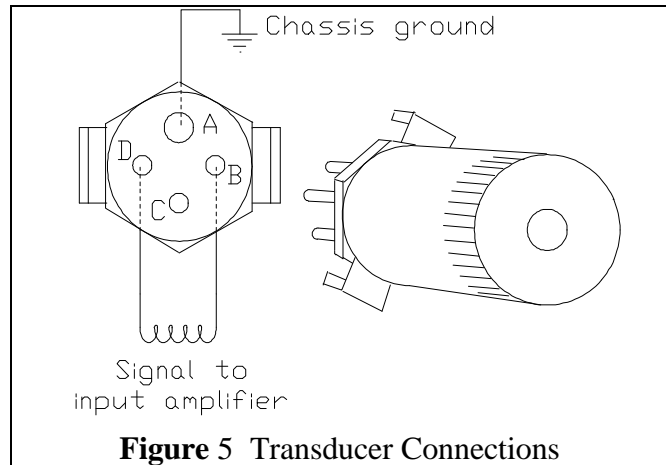
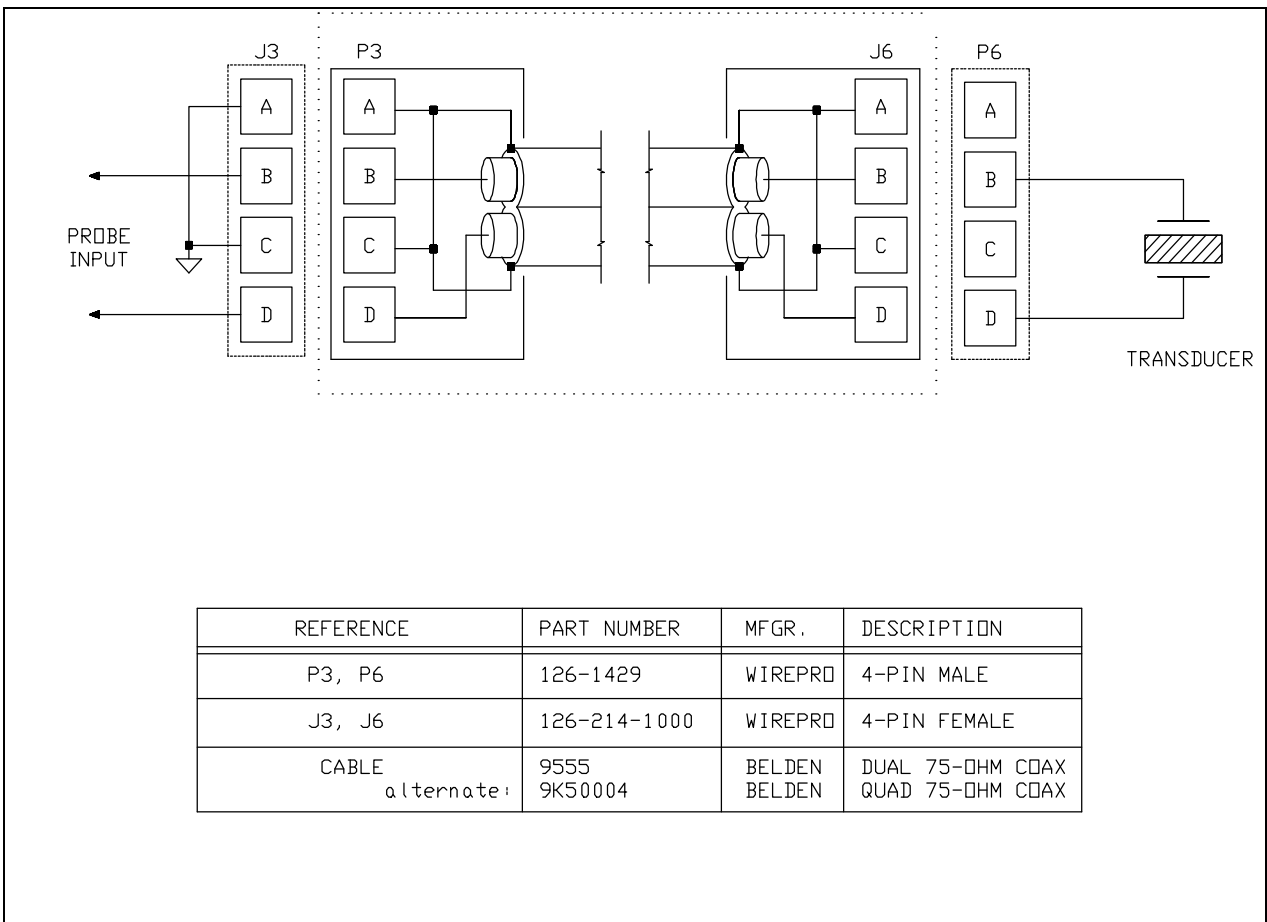

Figure 5 Transducer Connections
Figure A1 Flowmeter transducer cable assembly
- These instructions describe how to connect the appropriate flow probe to a module. **Figure 5** illustrates the transducer connections.
3. As shown in **Figure 5**, the large pin (A) on the transducer plug is the guide pin and connects to chassis ground. This pin aligns with the large diameter socket on the jack labeled PROBE. The transducer plug has a rotating shell. Its metal ears *cam-lock* with the metal locking tabs on the PROBE jack. Push the transducer plug into PROBE and twist clockwise to lock in place. This prevents the plug from being accidentally pulled out.
Figure A1 is a schematic showing the connections for fabricating the cables. (See **Figure 5** on page 13 for a pictorial view of typical transducer connection)